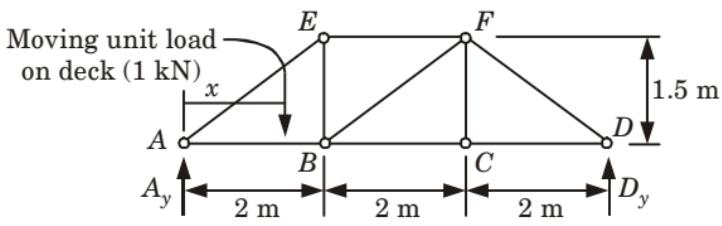

Fig. 10.
- b. Assume a unit point load is rolling along the bridge deck from points A to D in a simple truss as shown in Fig. 10. The distance X is the distance of the moving load from point A. Construct the influence line diagram for the three members EF, BF and BC.